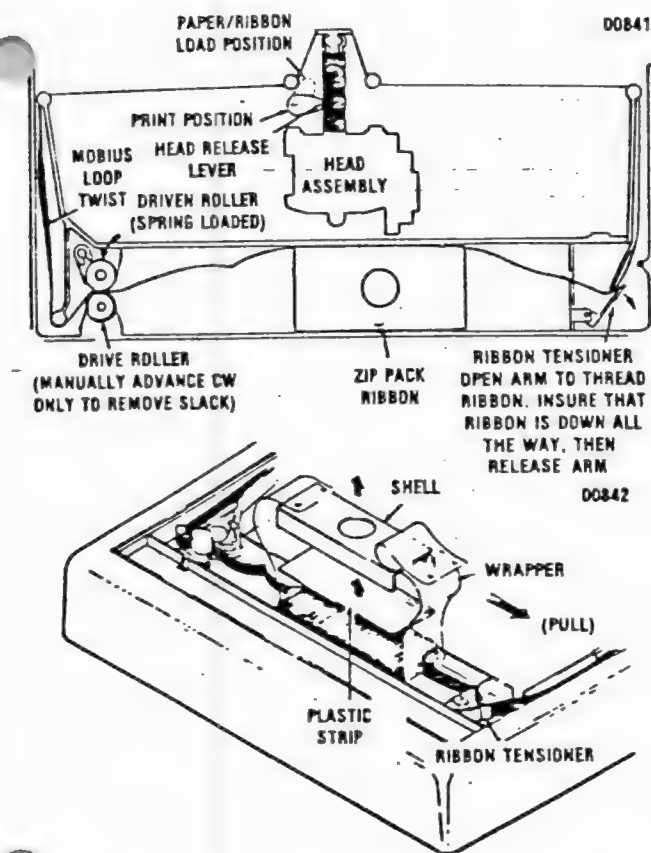

Figure 2-6 Ribbon Replacement
1. Remove top cover to gain access to ribbon tray. Refer to Figure 2-6.
3. Move the spring-loaded driven roller away from the driver roller and lift old ribbon out of the rollers. Refer to Figure 2-6 (top).
6. Place Zip-Pack ribbon in printer tray as illustrated in Figure 2-6.